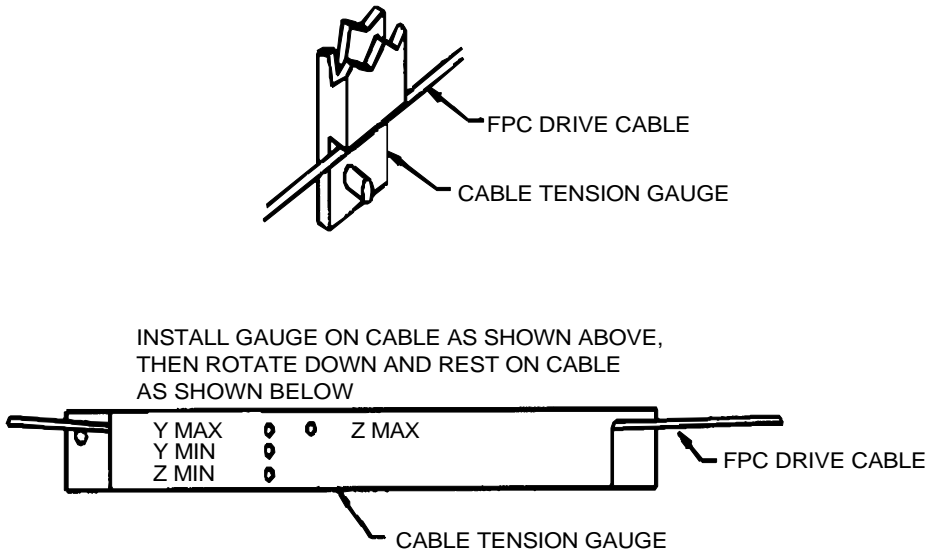

Figure 5. Tension Gauge
- 3. Place tension gauge on right side Z-cable. (Refer to Figure 5).
- 3. Place tension gauge on right side Y-cable. (Refer to Figure 5.)